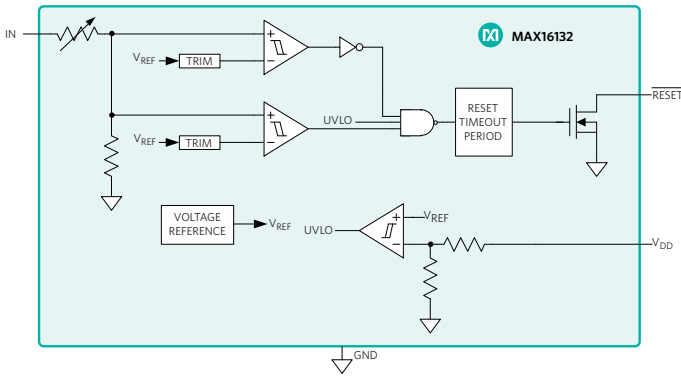

Figure 2. Single-Channel Voltage Supervisor Compares Input Voltage to the Undervoltage and Overvoltage
Voltage supervisors detect, diagnose, and report the status of the various system supply voltages, thereby preventing unsafe supply conditions (Figure 2).
In Figure 2, the voltage supervisor uses internal comparators to evaluate low-, high-, or power-down input conditions. The voltage supervisor sends a reset signal to the attached microcontroller if the voltage input (IN) violates the pre-programmed undervoltage (UV).